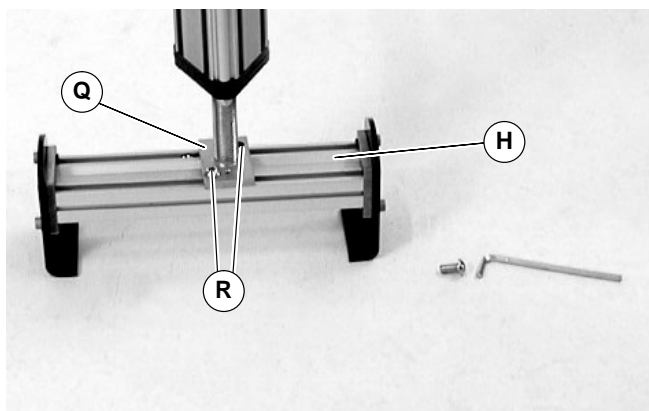

Figure 15
9. Align the screw holes (R of Figure 15) of the stand top screw end plate (Q) with the hex nuts in the t-slots in the crossmember tube (H).